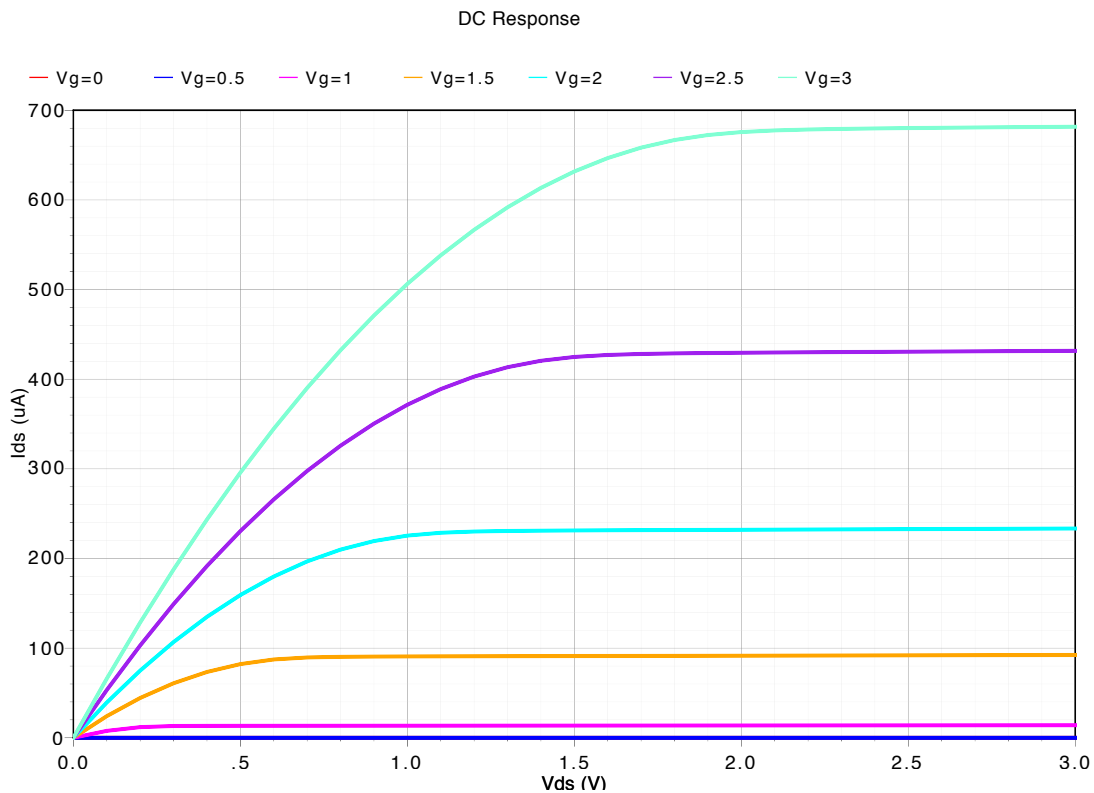

Figure 7: V_{ds} vs I_{ds} for different gate voltages.
Now you can start the simulation by pressing the green play button. ADE should automatically start 7 simulations simultaneously. If the plots do not appear press on “Plot All”. The NMOS V_{ds} vs. I_{ds} curves are shown in figure 7. Note you might get different curves in your simulation, here the width (W) of the NMOS transistor is 60 microns and the length (L) is 20 microns.